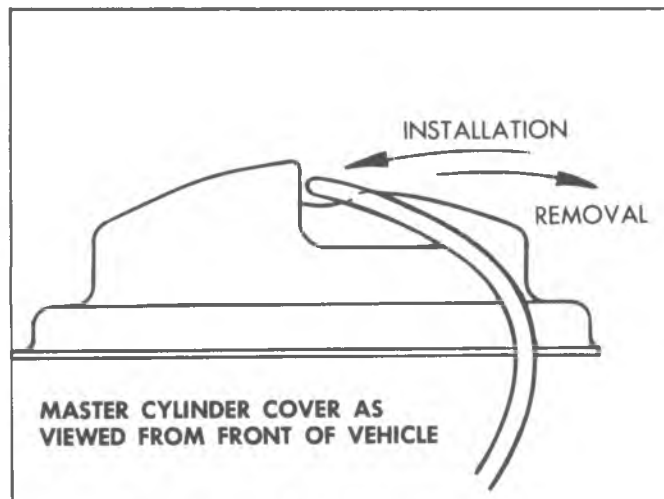

Fig. 31--Master Cylinder Cover Installation
cover, the retaining bail should be slipped over the lower cover bosses (fig. 31). Incorrect installation could result in bail tension loss and fluid leakage.
**CAUTION:** When installing the master cylinder cover, the retaining bail should be slipped over the lower cover bosses (fig. 31). Incorrect installation could result in bail tension loss and fluid leakage.